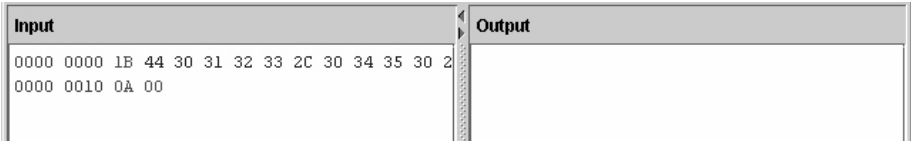

Figure 157. Hex Equivalents of LF and NUL
44. Type 0A00. To enter the hex equivalent of LF and NUL. See Figure 157.